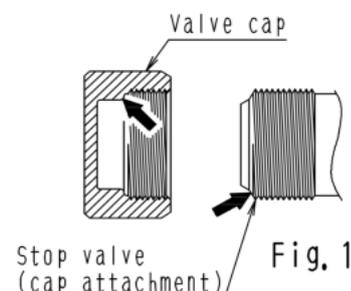

Fig. 11
- A seal is attached to the point indicated by the arrow. Take care not to damage it. (Refer to Fig.11)